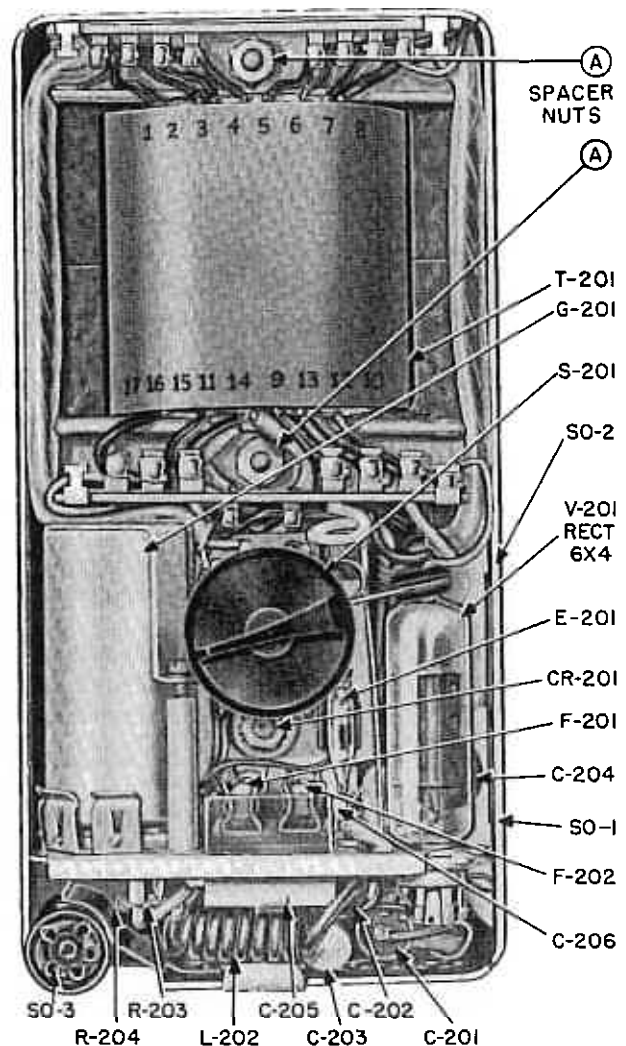

Figure 22. Power Supply RP-6, parts location.
33. HOW TO REPLACE POWER TRANSFORMER (See Figure 22)
- b. Remove the hex spacer nuts (A, Figure 22).